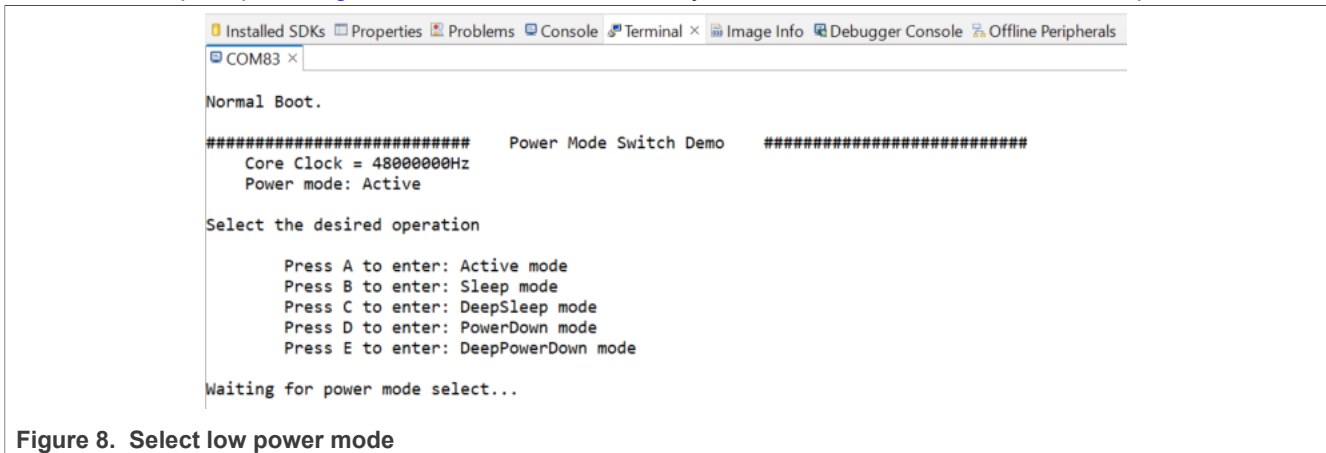

Figure 8. Select low power mode
- Follow the prompts in Figure 8 and enter one of the keys from A to E to enter a different low power mode.